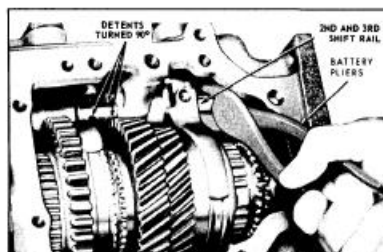

Figure 4-7—Rotating 2nd - 3rd Shift Rail
9. Using battery pliers with jaws padded, rotate 2nd - 3rd shift rail 90°. See Figure 4-7.